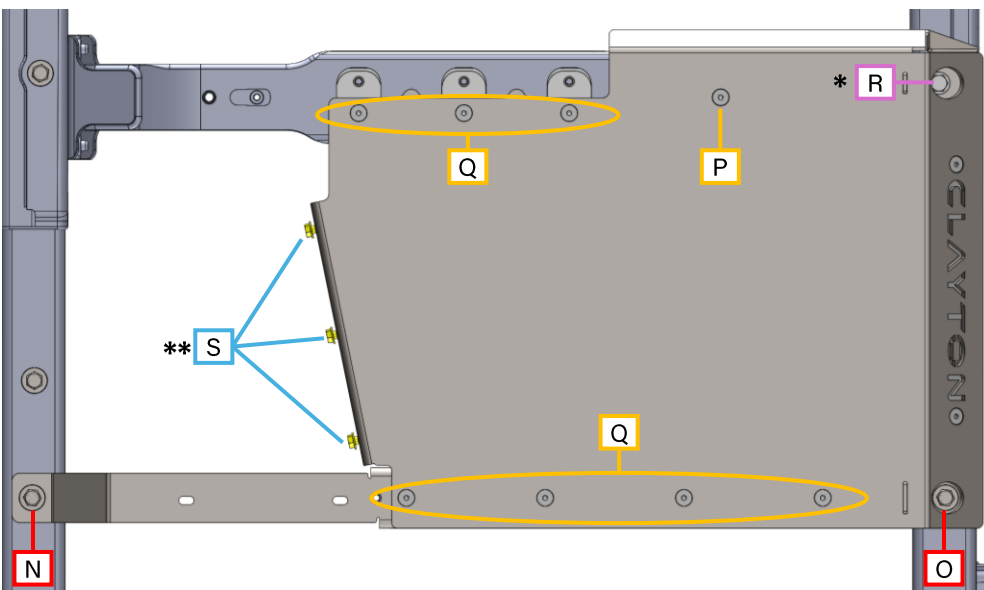

Figure 41 : bolt callouts on transfer case skid plate
34. Proceed with Table 2 while referencing Figure 41. Tighten the transfer case skid plate hardware to the following specification. **Pay attention to the * notes at the bottom of the page.**